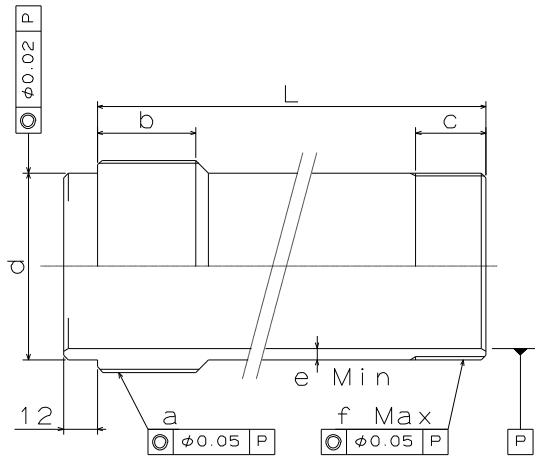

Fig.16
The dimension L in Fig.16 is determined from the distance A between the cylinder adapter and the back plate.
- Keep the dimension e and the dimension f in Fig. 16 for the draw pipe and a material with the tensile strength 380MPa (38kgf/mm²) or more must be used.